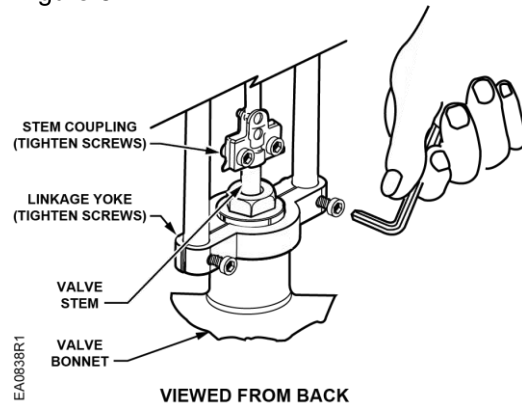

Figure 5. Connecting the Linkage Assembly on the Valve.
6. Use the 1/4-inch hex key to tighten the screws to 65 lb-in. (7 Nm) in the linkage yoke and to secure the linkage on the valve bonnet. See Figure 5.